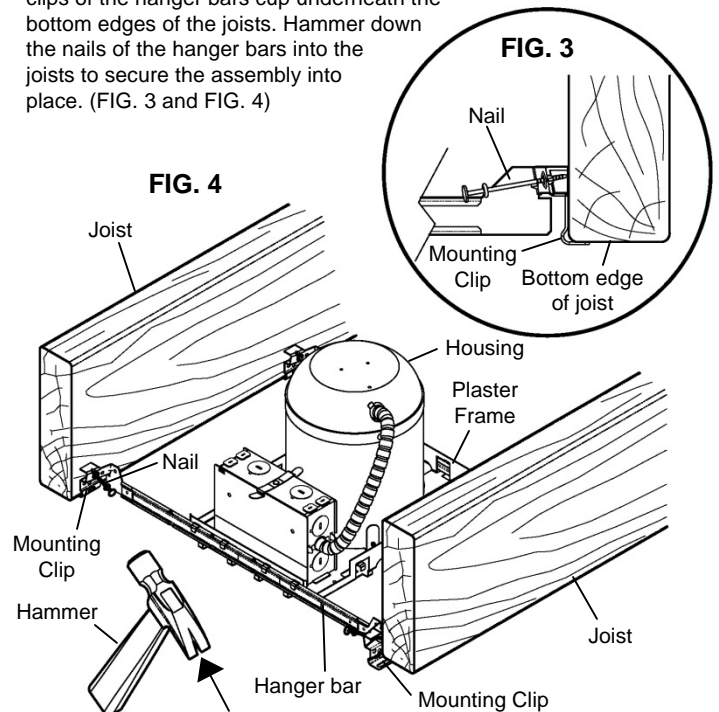

FIG. 4
2. Raise the housing/hanger bar assembly to the desired location between the two ceiling joists. Adjust the width of both hanger bars to the distance between the joists. Position the assembly so that the mounting clips of the hanger bars cup underneath the bottom edges of the joists. Hammer down the nails of the hanger bars into the joists to secure the assembly into place. (FIG. 3 and FIG. 4)